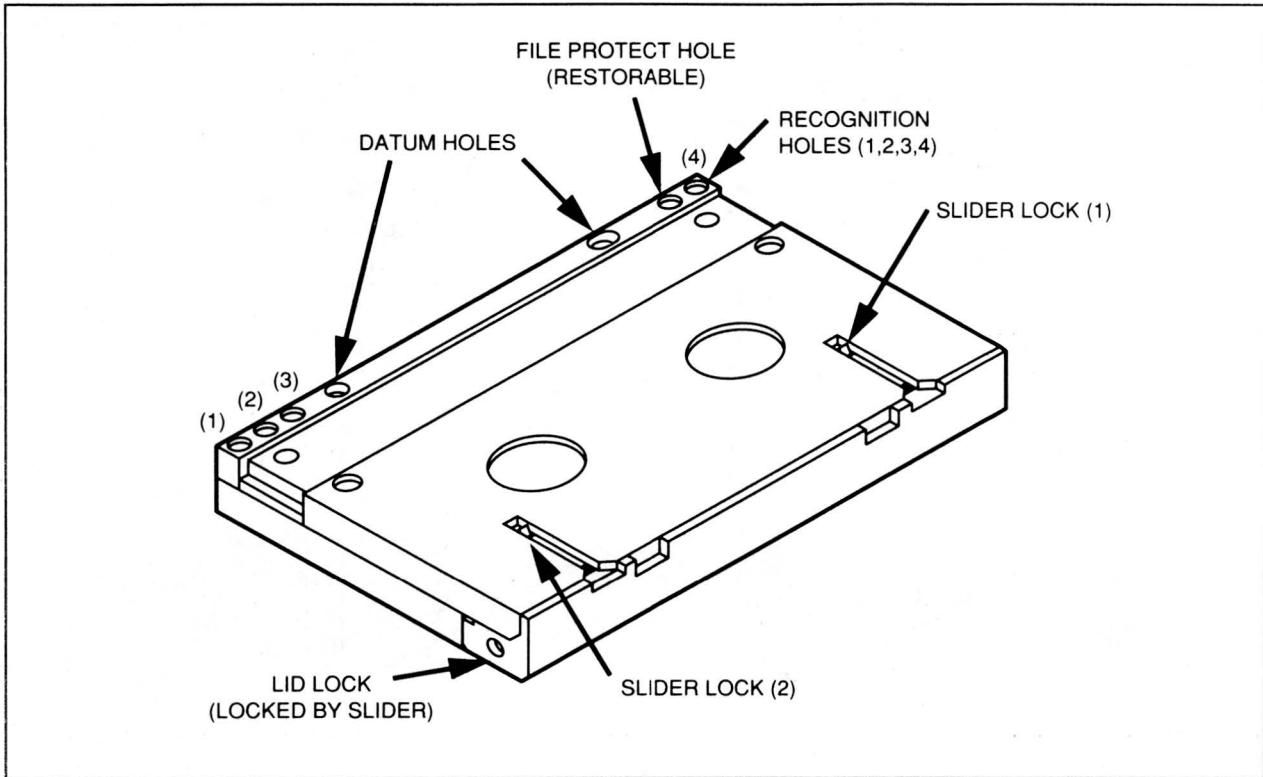

Figure 18
Figure 18 points out the four recognition holes that allow the drive sensors to identify the type of tape, its magnetic thickness, and to determine whether the tape is prerecorded, unrecorded, or a cleaning cassette. Other cassette features to allow the drive to optically sense "cassette in", BOT, and EOT.
1. Gently push the blank DAT cassette into the cassette insertion slot on the front panel with the arrow on the top side of the cassette entering the opening first. (See Figure 18.)